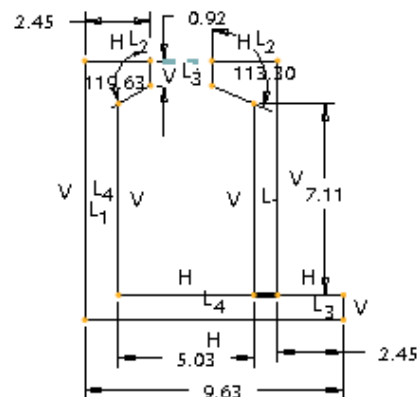

Figure 2-30 Sketch after dimensioning
- Dimension the required entities and then modify the dimensions of the sketch, refer to Figures 2-30 and 2-31.
8. Select the vertex that is joining lines C and D and the vertex that is joining lines J and K. Both the vertices are aligned horizontally, as shown in Figure 2-30.
Figure 2-30 shows the sketch after applying dimensions. If your sketch does not have all dimensions shown in this figure, apply them by using the **Normal** button.